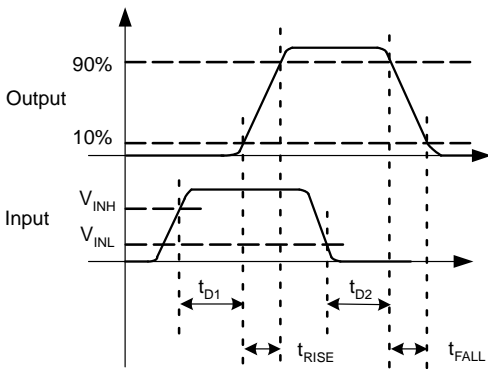
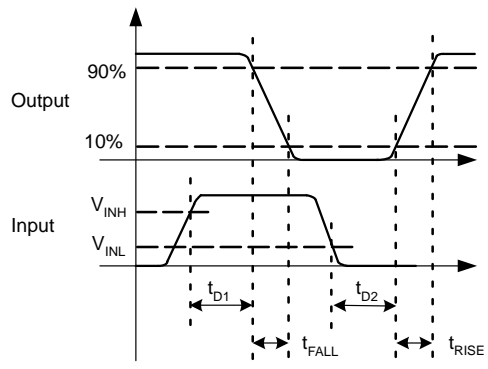
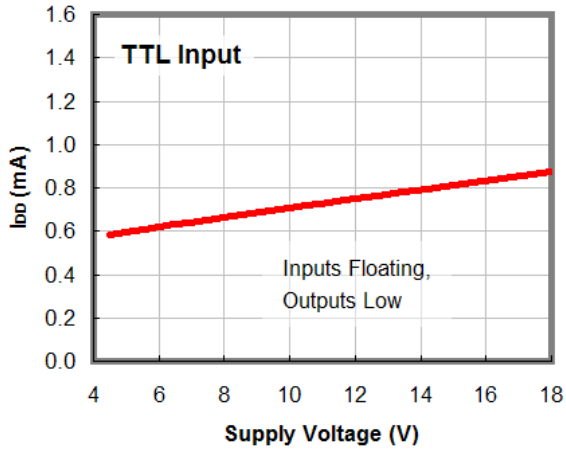
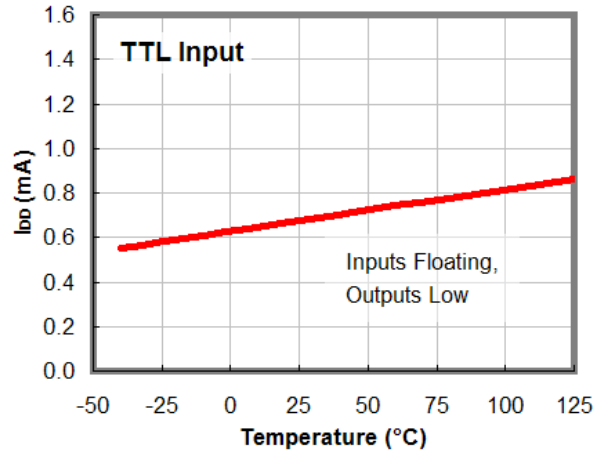

Figure 6. Non-Inverting Timing Diagram
Figure 7. Inverting Timing Diagram
Figure 8. I_{DD} (Static) vs. Supply Voltage (Note 11)
Figure 9. I_{DD} (Static) vs. Temperature (Note 11)
9. See Timing Diagrams of Figure 6 and Figure 7.
11. For any inverting inputs pulled low, non-inverting inputs pulled high, or outputs driven high, static I_{DD} increases by the current flowing through the corresponding pull-up/down resistor shown in Figure 6 and Figure 7.
In the I_{DD} (static) typical performance characteristics shown in Figure 8 and Figure 9, each curve is produced with both inputs floating and both outputs LOW to indicate the lowest static I_{DD} current. For other states, additional current flows through the 100 kΩ resistors on the inputs and outputs shown in the block diagram of each part (see Figure 6 and Figure 7). In these cases, the actual static I_{DD} current is the value obtained from the curves plus this additional current.